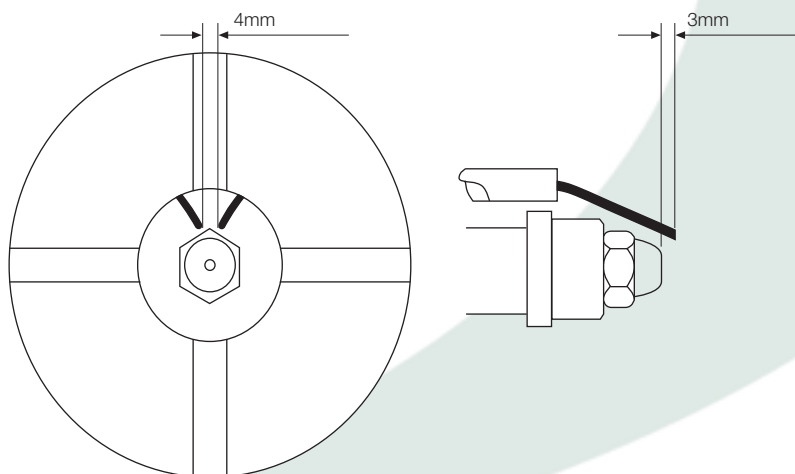

Figure 11-2: Electrodes showing setting
7. Always check the electrode settings after replacing the nozzle, see Figure 11-2.